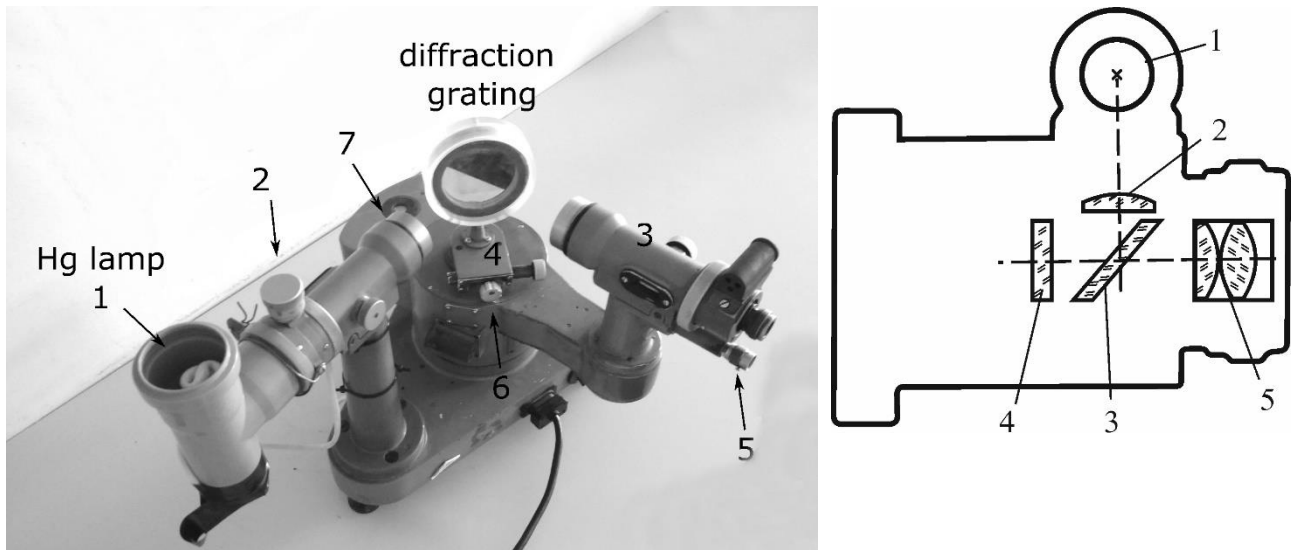

Figure 563.2. Setup (left) and the autocollimating Gauss ocular (right)
The grating used in this setup has 600 grooves per 1 mm and $i = 12^\circ$; this allows the light to be concentrated in the first order spectrum, when the angle of incidence is close to 43° . The grating is installed on a goniometer (Fig. 563.2 (left)).
The observation tube is equipped with an autocollimating Gauss ocular (Fig. 563.2 (right)). The light from a lamp **1** passes through a matted plate **2**, is reflected by a parallel-sided plate **3** (a block that has been precision ground and lapped to a specific thickness), then passes through a plate **4** with a crosshair drawn on it (the plate **4** is near the focal plane of the ocular **5**), and finally exits the tube objective and falls onto the mirror surface of an object located on the goniometer table.
2. Adjust the observation tube to the infinite distance and find the direction of the grating plane. To do this, align the observation tube at an angle slightly greater than 90° relative to the collimator, loosen the clamping screw **6** (Fig. 563.2 (left)) and rotate the grating (table) until a light crosshair appears in the field of view. Then fix the grating with the clamping screw. Achieve a clear image of the light crosshair by adjusting the focus of the observation tube. Superpose the light crosshair with the crosshair in the ocular manually or using the micrometric thimble. Read γ_N from the limb gauge. This reading gives the direction of the normal relative to the grating plane. Since the limb rotates with the grating, this value remains the same in any position of the table. At the same time, the procedure described above adjusts the observation tube at the infinity.
3. Adjust the collimator to the infinite distance and adjust the slit width. To do this, keep the observation tube untouched in the position found in the step 2; loosen the clamping screw **6** (Fig. 563.2 (left)), and rotate the grating until the zero-order maximum (bright white reflection of the illuminated slit) appears in the field of view of the observation tube. Then tighten up the clamping screw **6** again. Adjust the focus of the collimator to obtain a clear image of the zero-order maximum. Make the slit **2** as narrow as possible using the screw **2**, so that its image is a thin but still bright enough line.